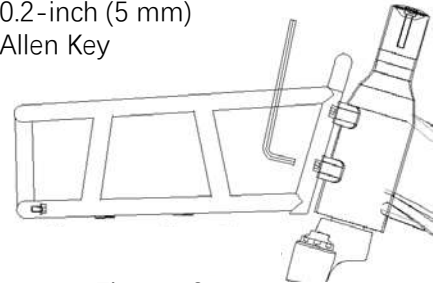

Figure 6.
2. Mount the basket on the head tube, then tighten the 4 bolts with the 5 mm Allen key, as shown in Figure 6.